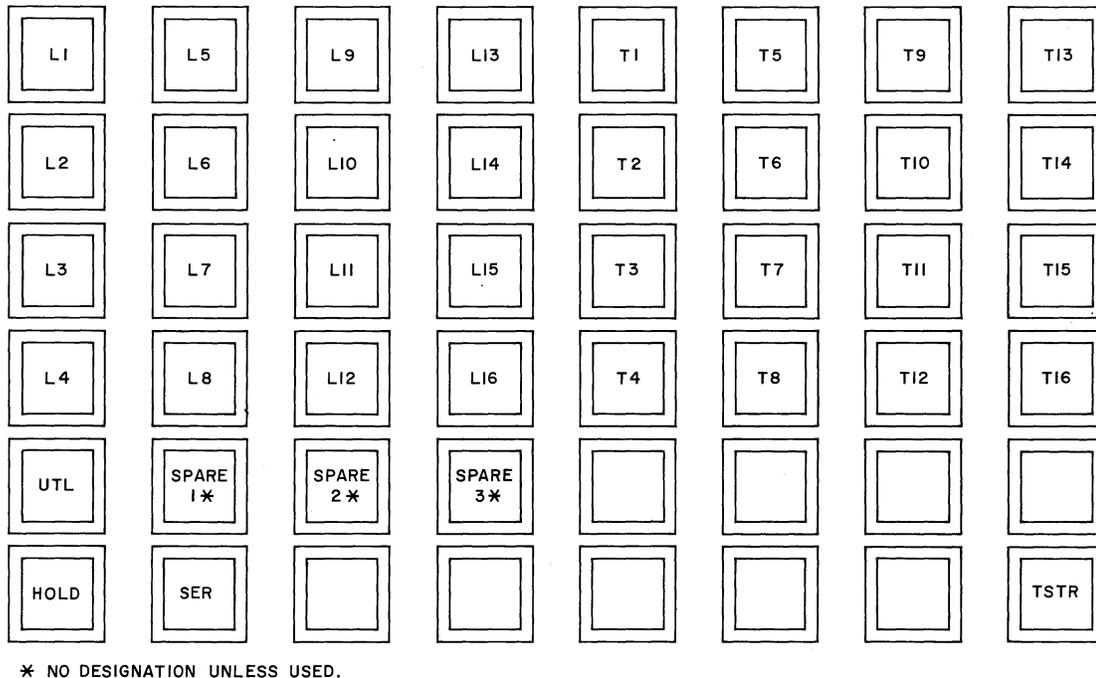

Fig. 3—Data Auxiliary Set 804K Key Designations
2.04 Fig. 3 illustrates how the key field will be designated when received. If a data station